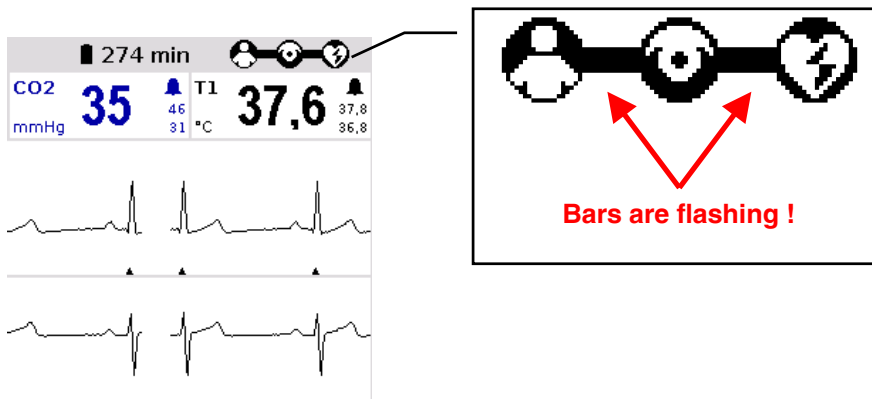

Fig. 1: Indicator during failure appearance
In case of the failure indication as mentioned under item 1.1 (see Fig. 1), the failure can be safely rectified by a temporary separation and re-connection of the modules, as the turned off modules can now be powered up again under control. Repeated turning off of the Monitoring Unit is not necessary.